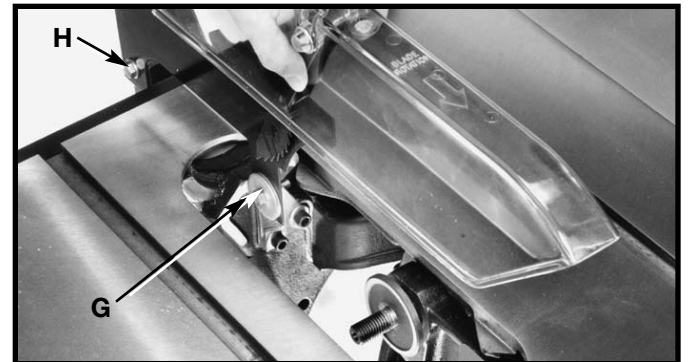
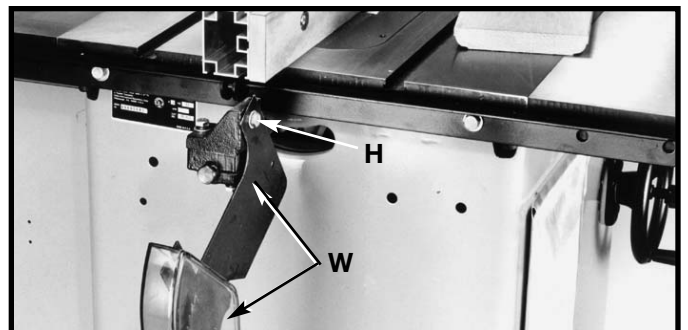

Fig. 81
Fig. 82
⚠ WARNING FOR CERTAIN CUTTING OPERATIONS (DADOING AND MOULDING) WHERE THE WORKPIECE IS NOT CUT COMPLETELY THROUGH, THE BLADE GUARD AND SPLITTER ASSEMBLY CANNOT BE USED. LOOSEN SCREWS (G) AND (H) FIG. 81. LIFT UP AND SWING BLADE GUARD AND SPLITTER ASSEMBLY (W) FIG. 82 TO THE REAR OF THE SAW AND RETIGHTEN (H).